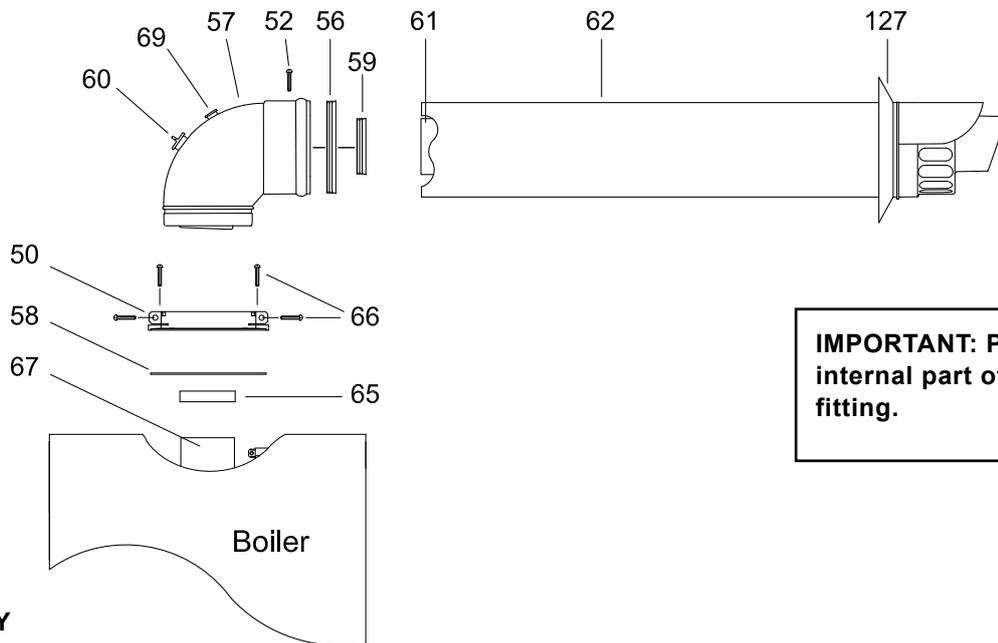

Fig.17
Important: Make sure that the inner 60 mm diameter of the elbow header is inserted fully into the flue manifold, and the flue manifold rubber seal is correctly fitted. (Fig 17 item 65)
Important: Make sure that the inner 60mm diameter of the elbow header is inserted fully into the flue manifold, and the flue manifold rubber seal is correctly fitted. (Fig 17 item 65)